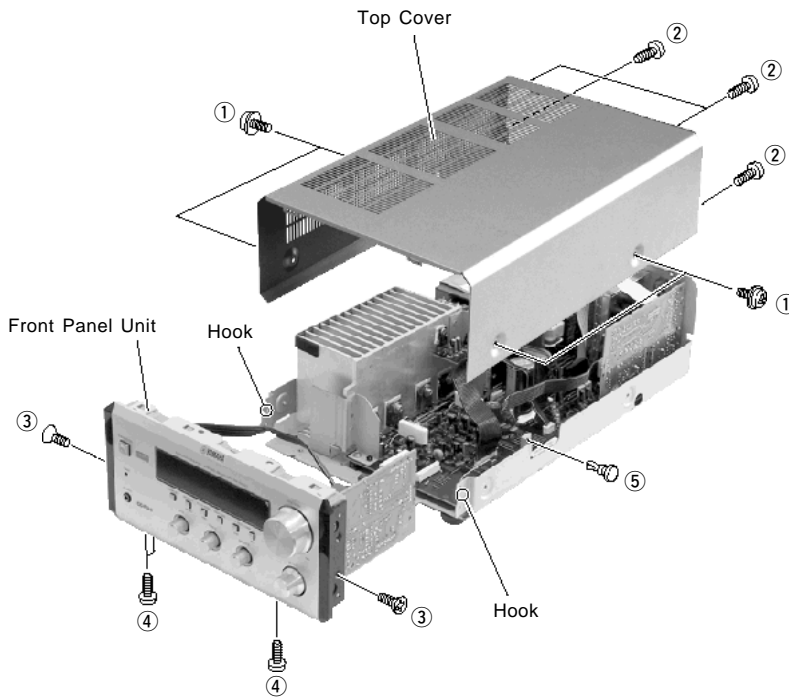

Fig. 1
- a. Remove 4 screws (①) and 4 screws (②) in Fig. 1.
- b. Remove 2 screws (③), 3 screws (④) and 1 plastic rivet (⑤) in Fig. 1.